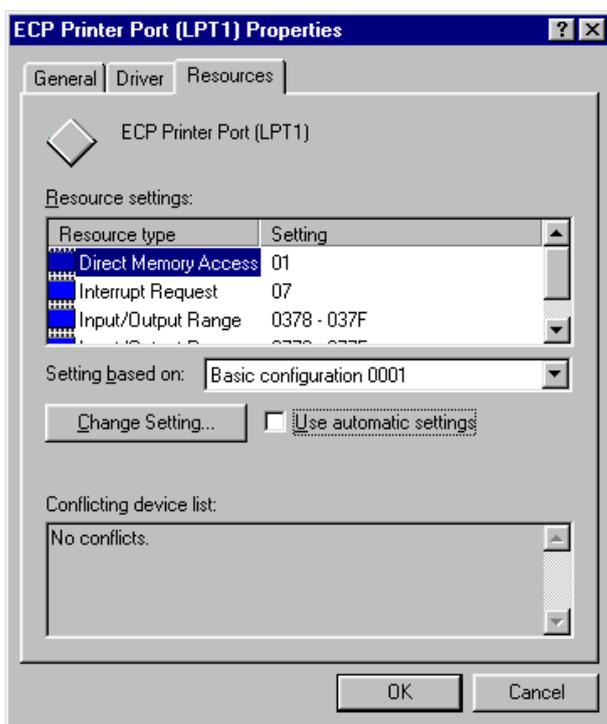

Figure 2-5
- d. Uncheck **Use automatic settings** check box (see **Figure 2-5**).